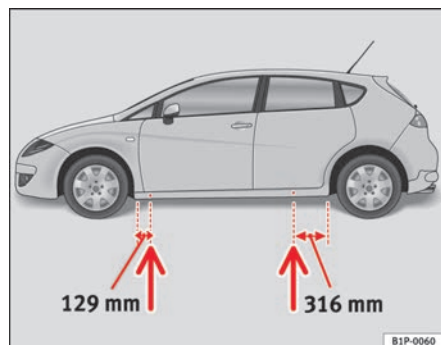

Fig. 152 The jacking points
- Locate the jacking point under the door sill closest to the wheel to be changed ⇒ fig. 152.
Recesses at the front and rear of the door sills mark the jacking points ⇒ fig. 152. There is only one jacking point for each wheel. Do not fit the jack anywhere else.